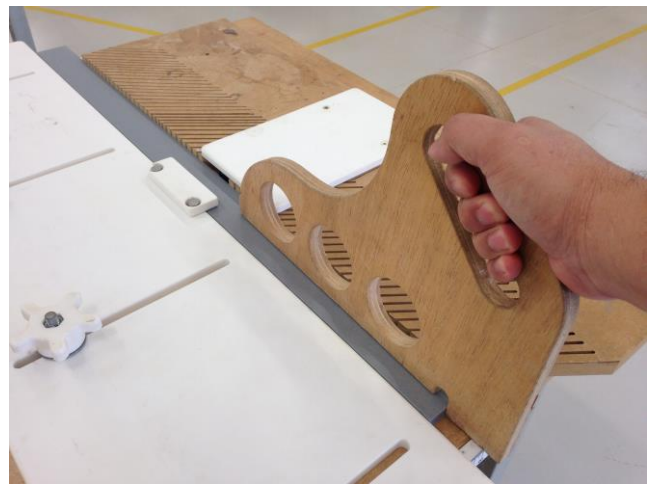

Figure 04: fixed router under working table to correct narrow pieces.
1. To correct a Corian® piece, generally use a portable router. For large pieces, up to 20 cm, use the router with a ruler as a guide. For narrow pieces, the best technique is a router trapped with guides under a table (Figure 04).